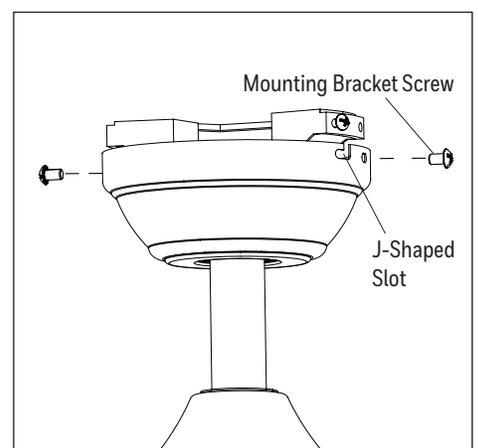

Figure 5.3
- Raise the canopy, ensure the two mounting bracket screws are aligned with the J-shaped slots in the canopy. Then turn the canopy in a clockwise direction until the mounting bracket screws are completely engaged in the J-shaped slots. Securely tighten all mounting bracket screws (Figure 5.3).